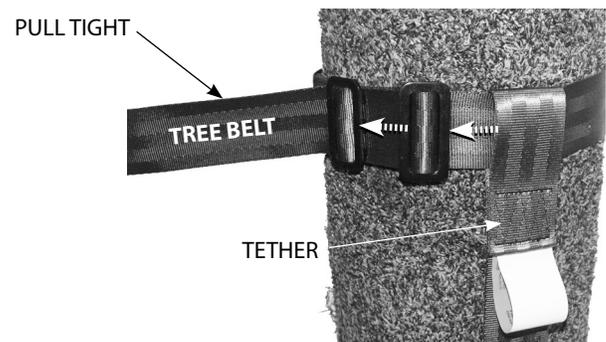

Figure 12
5. When you reach the height of your stand platform, **DO NOT UNHOOK YOUR CLIMBING BELT**, you must attach the harness tether to the tree, above the treestand, using the provided tree belt. Wrap the tree belt through the loop end of the tether and around tree. Take the tail end of tree belt and feed it through (2) adjustment slides on tree belt. **SEE FIGURE 12.** Pull the tail of tree belt tight.
**NOTE: Be sure the (2) adjustment slides are facing away from tree, preventing any obstruction. Do not position tether on or between the (2) tree belt adjustment slides. SEE FIGURE 12.**